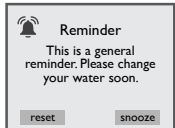

Figure 15.0g
23. Water Refresh Reminder: This message will appear when the "Water Refresh" timer has expired (Figure 15.0g). The water needs to be drained and refilled with fresh water.